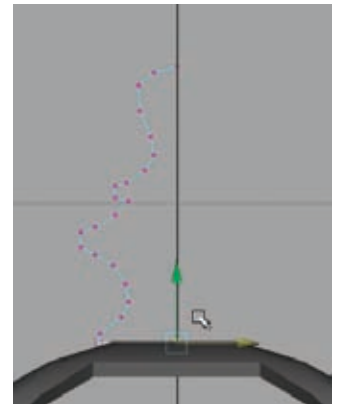

Figure 6.9
15. In the Front view, use the CV Curve tool to draw the profile shape for a decorative top for the dome. It can be whatever shape you like. Make sure your first and last points are on the origin line (toggle grid snap by holding the X key if you need to). Mine is sort of chess-piece-shaped, like you see in Figure 6.9.